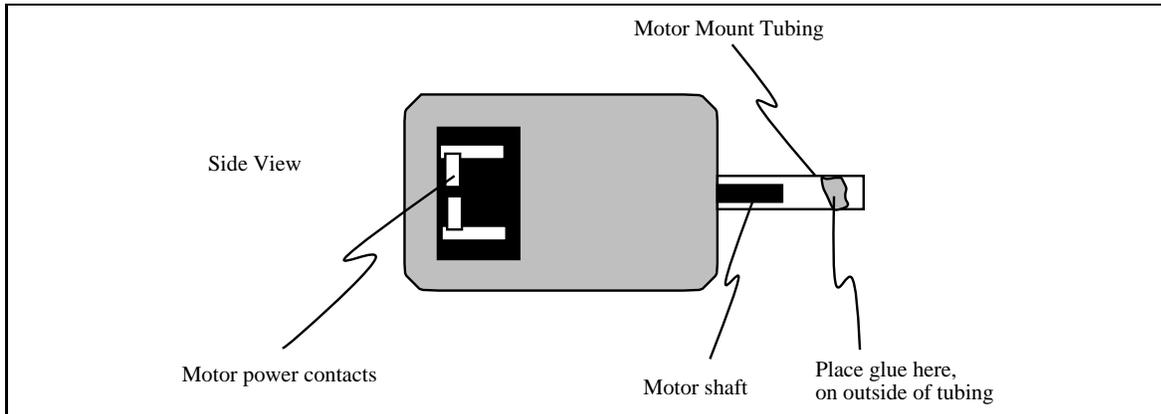

Figure 1.31: Motor Housing with Tubing
- Place a drop of super glue around the outer area of the tubing that is furthest away from the motor housing as shown in Figure 1.31. *Make sure that too much*